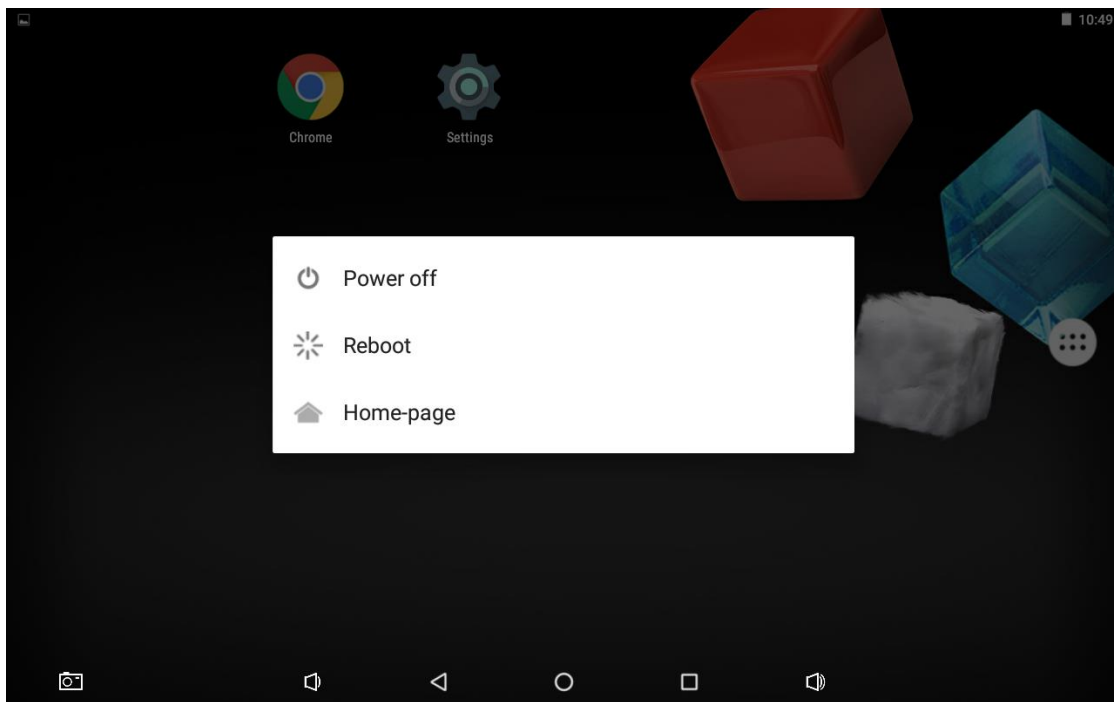

Figure 24: Using a Hidden Control Button
Press the Control button (7). The Power/reset pop-up screen appears (see <a href="#">Figure 24</a> ): <ul style="list-style-type: none"> <li>• If Home-page Exit is not password protected, switch to Home-page.</li> <li>• If Home-page Exit is password protected (see <a href="#">Defining Home-page Password-protected</a> Exit on page 27), enter the correct password and switch to Home-page.</li> </ul>	Press rear-side power button (10). Power/reset pop-up screen appears (see <a href="#">Figure 24</a> ). Go to Home-page.  Or:  Click power-off and wait for system shut-down. Press rear-side power button to power on. The Touch Panel powers up. Go to Home-page.